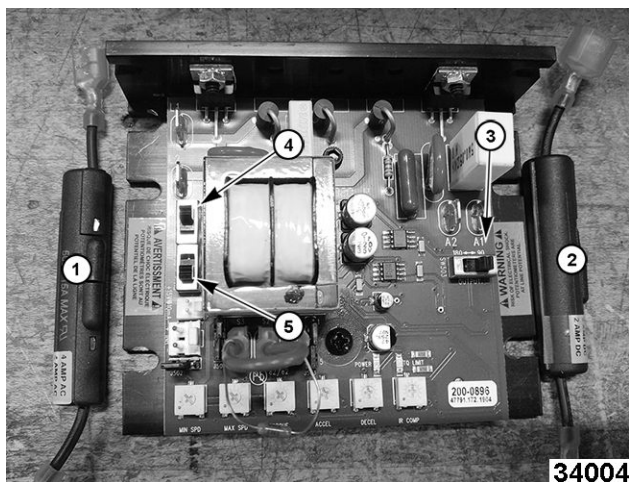

Fig. 65
SHOWN IN Fig. 65
- Fuse - 1, Fig. 65, 4 amp AC.
- Fuse - 2, Fig. 65, 2 amp DC.
- 3 switch shown in Fig. 65 should be set at 90.